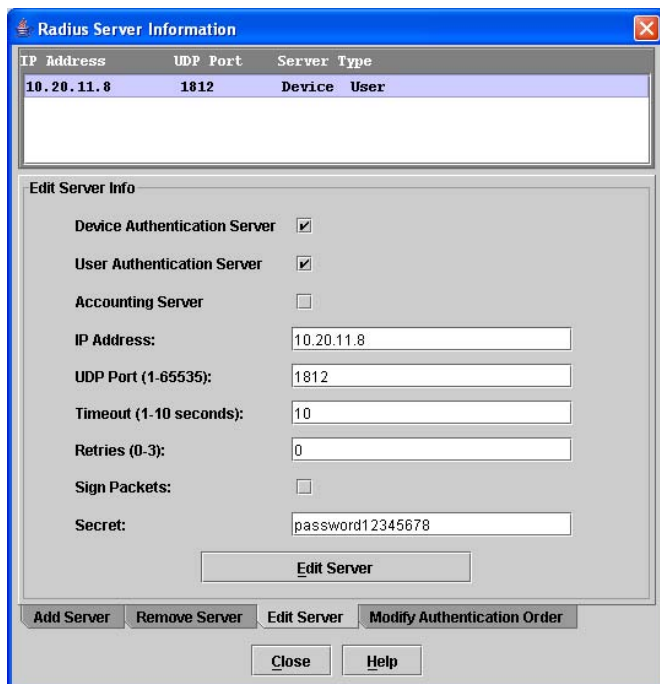

Figure 12 RADIUS Server Information dialog — Edit Server tab page
2. Click the **Edit Server** tab in the Radius Server Information dialog shown in Figure 12.